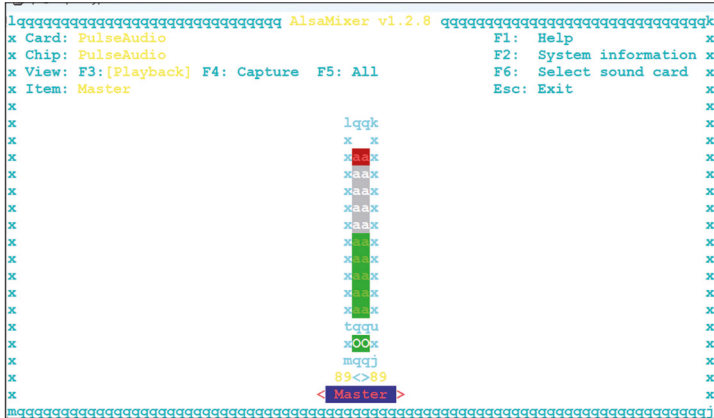

Figure 5.4: The alsamixer screen.
- Enter the following command and you will see the screen as in Figure 5.4: